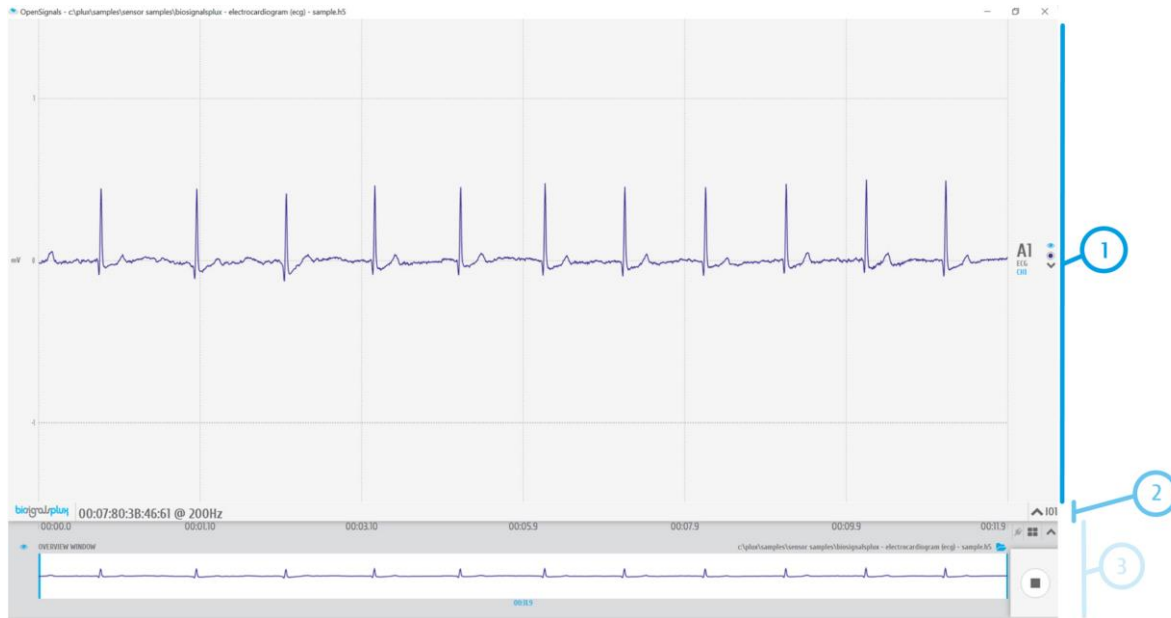

Figure 88: Sections of the visualization mode.
- Signal visualization (1 in Figure 88; see section 3.2.2 *Signal Visualization*)
- Information bar (2 in Figure 88; see section 3.2.3)
- Control bar (3 in Figure 88; see section 3.2.4 *Control Bar*)